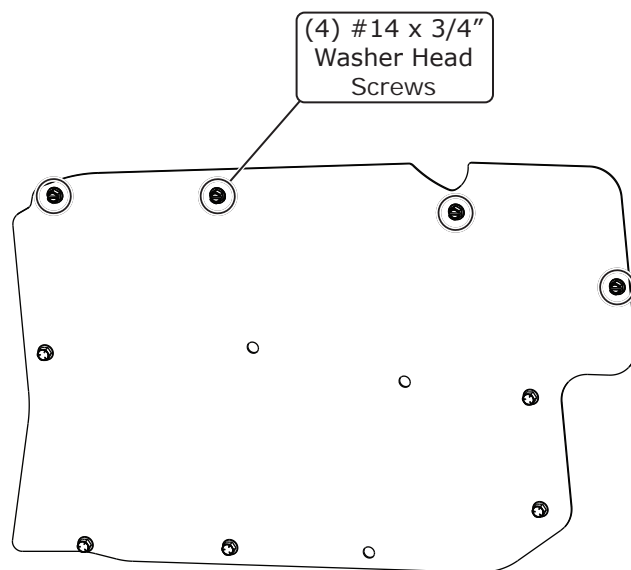

Figure 2
3. Install (4) #14 x 3/4" washer head screws into the top four mounting holes (See Figure 2, below).